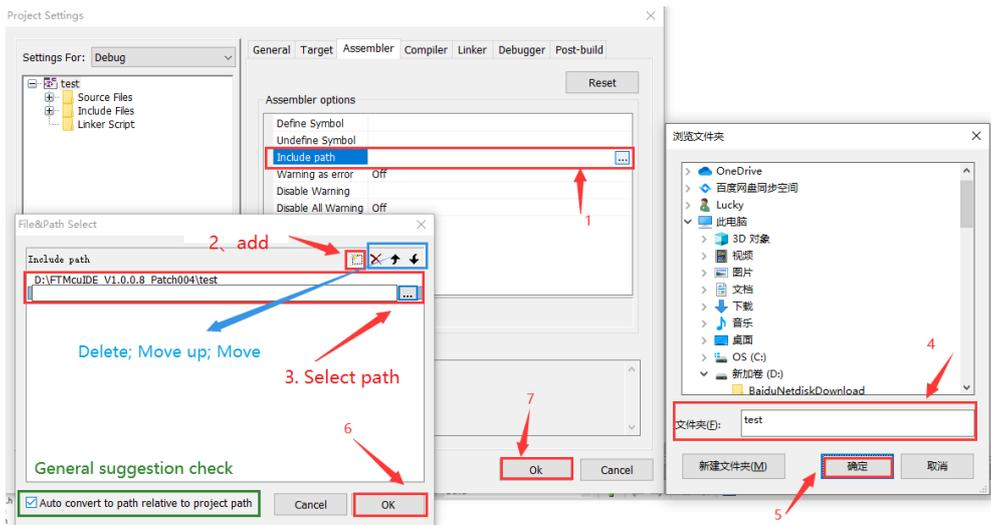

Figure 1-38
- Include path: Add the address of the header file, as shown in Figure 1-38 below;